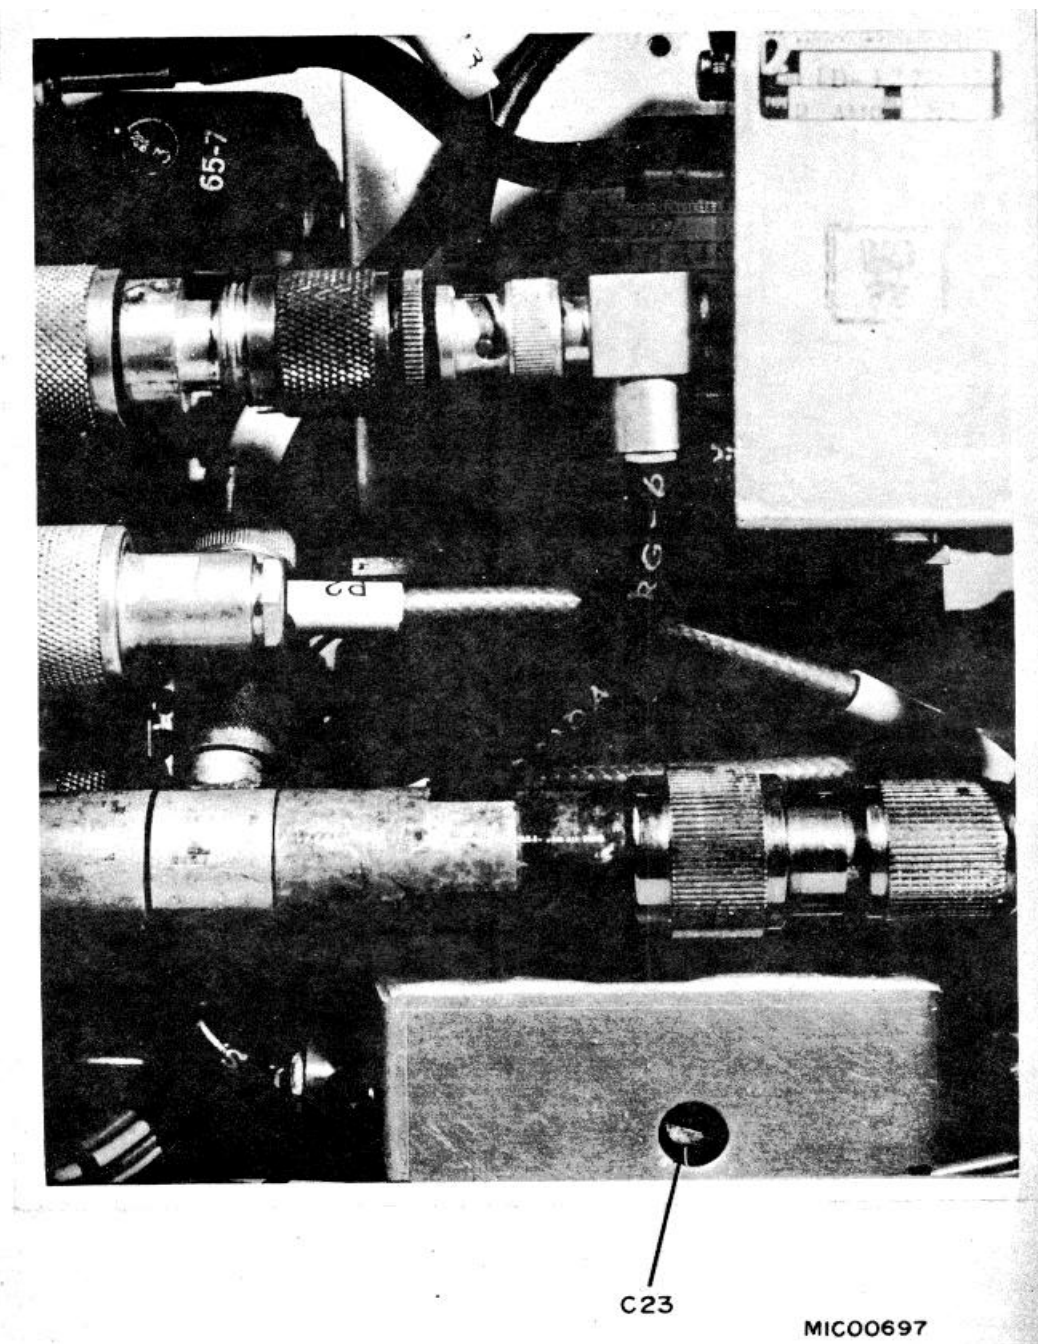

Figure 6-10. Main frame right side.
j. Set up synchronizer for locked A band operation (TM 9-4931-294-15-1) and adjust C23 (Fig. 6-10), C49, and L8 (Fig. 6-8) for peak indication on signal level meter.
If A and K band heads are not available, use the next highest band RF head. Proceed with remainder of the procedure with the exception of the adjustment of C23 (Fig. 6-10).